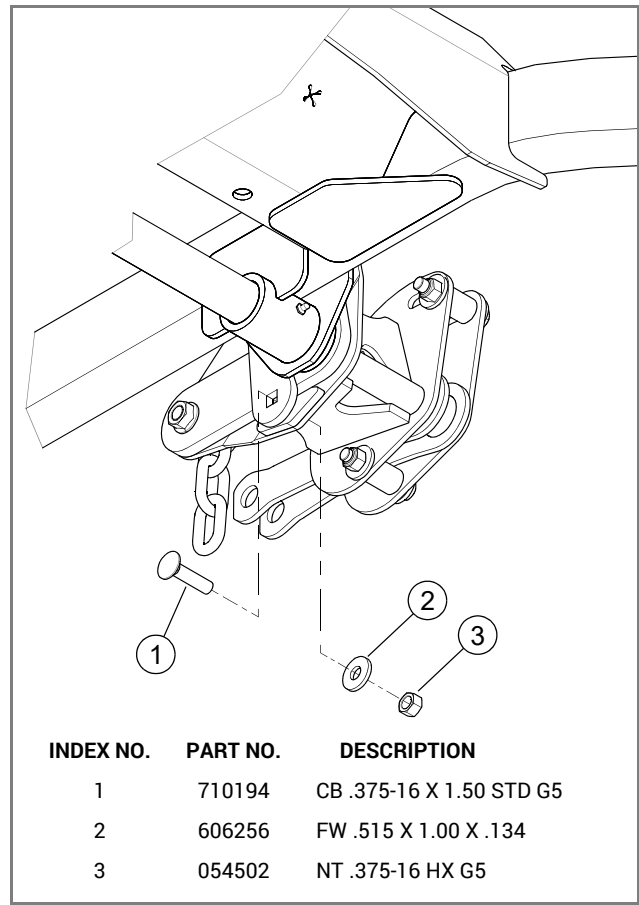

FIG. 6
10. After the back plate is in place, insert the third carriage bolt into the lower hole. FIG. 6